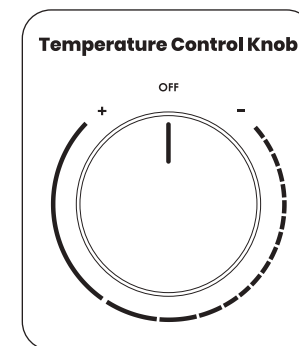

Fig. 7
2. Replace the front cover and turn the Temperature Control Knob at the front cover to “OFF” position to align with the VR Knob **(Fig. 7)**.